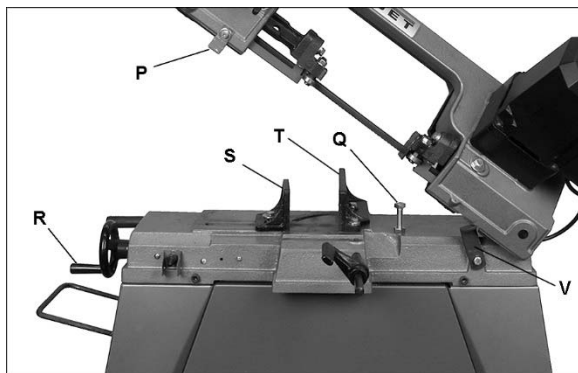

Figure 7-9
- If saw completes cut but blade continues moving, adjust switch trip (P, Figure 7-9) downward.
- If blade stops before cut is complete, adjust switch trip (P) upward.
- If blade stops descending and continues running without completing the cut, turn stop bolt (Q) down.
Use handwheel (R, Figure 7-9) to open and close vise.
1. Raise bow and secure in position using support plate (V, Figure 7-9).
4. Release support plate (V, Figure 7-9) and turn on saw. Lower bow until blade contacts material. Release bow to allow cutting to proceed. Weight of bow in conjunction with spring tension will force blade through material until cut is finished.